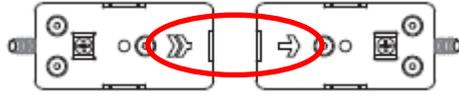

Figure 7 Arrow indicates flow direction when transducers are properly placed
5. Mount the flow transducer set on the pipe at the selected monitoring point without couplant. See figure 3b. Observe the correct positioning of the transducers by noting the embossed flow direction arrow (see figure 7 on page 4 of this document, and **FUM chs 8.2 and 8.3, p51-4**).
14. Transducers should be oriented on the pipe observing the correct flow direction indicated by the embossed arrow on top of the transducer. See figure 7.